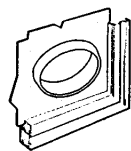

Figure 2
Step 2 Insert the port-hole into window frame without the window blanking plug (see figure 2).